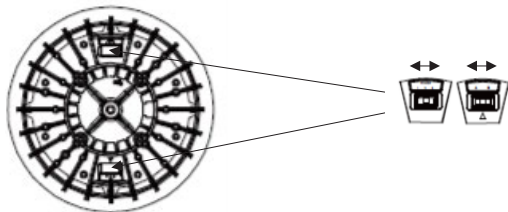

Fig. 4
- Select the desired power output and colour temperature via the switches on the rear of the luminaire (see Fig. 4)